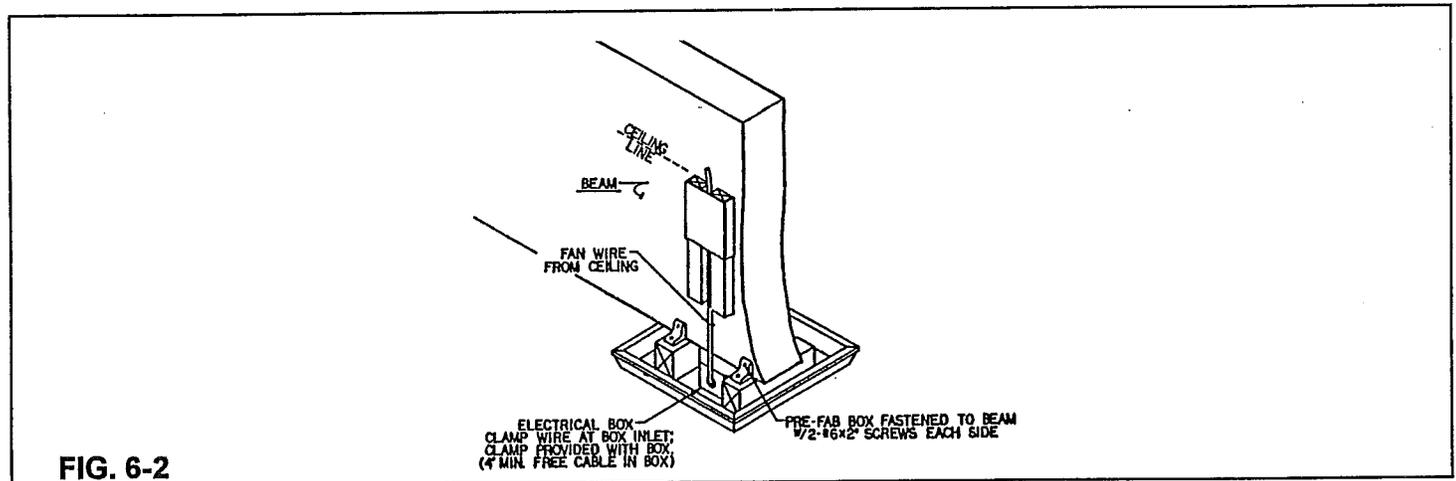

FIG. 6-2
1. Remove the fan manufacturer's installation instructions from the package and determine the method of fan attachment to the beam (See Fig. 6-2).